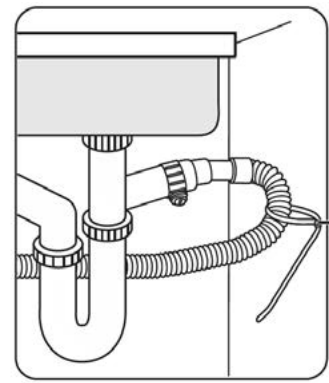

Figure 13
- Lastly, secure the drain hose to the sink wall using cable ties or other fastening materials (see Figure 13). Otherwise, the drain hose may bend at the end causing a drainage problem or excessive supply of water.